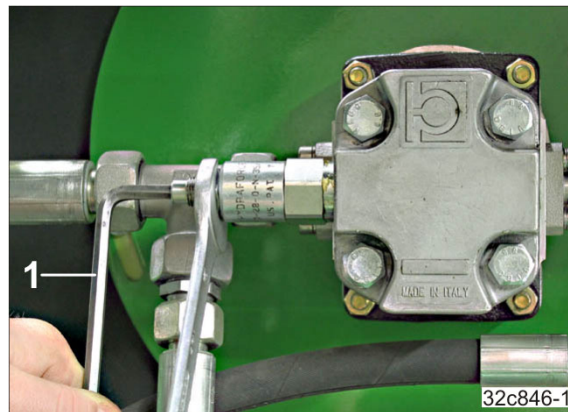

Fig. 171
1. Loosen the lock nut (Fig. 171).
- 2.1 Turn the bolt with the hexagon socket wrench (Fig. 171/1) accordingly.
2. Use the hexagon socket wrench (Fig. 171/1) to set the target blower fan speed on the pressure relief valve. Do not exceed the maximum fan speed of 4000 rpm.